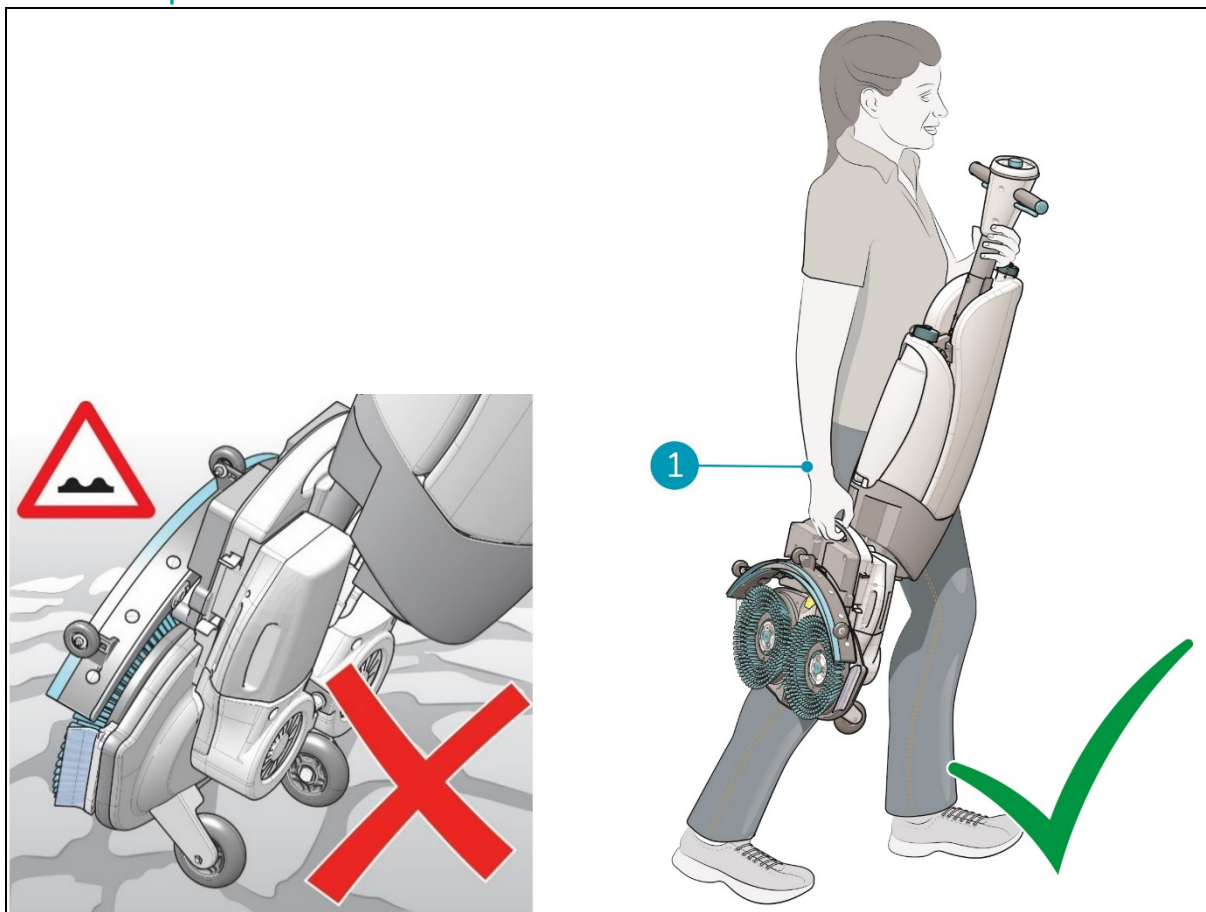

Figure 6
2. Carry the i-mop XXL plus with one hand while holding the handle (Figure 6, pos 1) with your other hand.